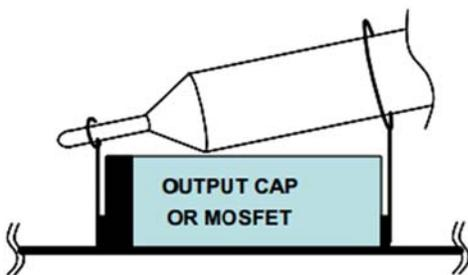

FIGURE 3. OSCILLOSCOPE PROBE SETUP
4. Use oscilloscope to observe output ripple voltage and phase node ringing. For accurate measurement, refer to Figure 3 for proper setup.